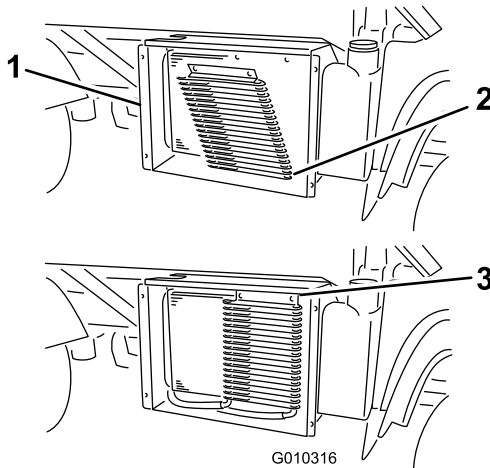

Figure 53
6. If equipped, rotate the latches and pivot the oil cooler away from the radiator (Figure 53).